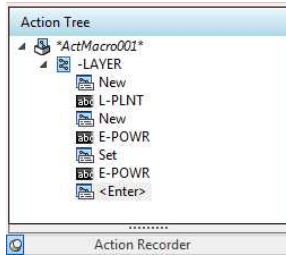

FIGURE 6.52: The Action Recorder after creating the new layers and setting the current layer
9. Click the Stop button to discontinue recording the actions. Your Action Recorder panel should look like Figure 6.52.